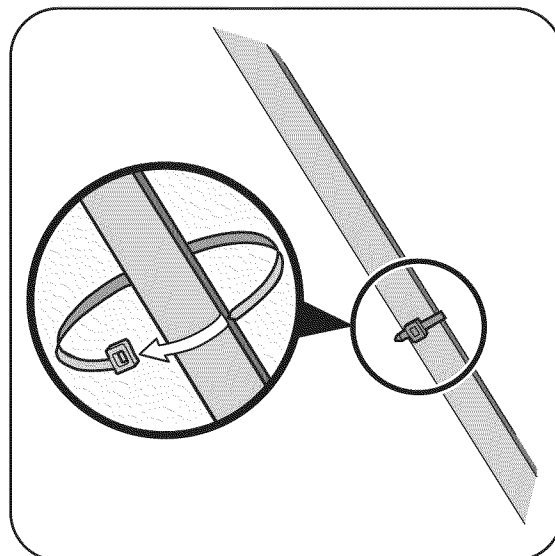

Figure 3-7: Secure cable to lower handle using a cable tie.
1. Secure the cable to the lower left handle near the base of the unit with a cable tie, Figure 3-7. Trim off any excess.